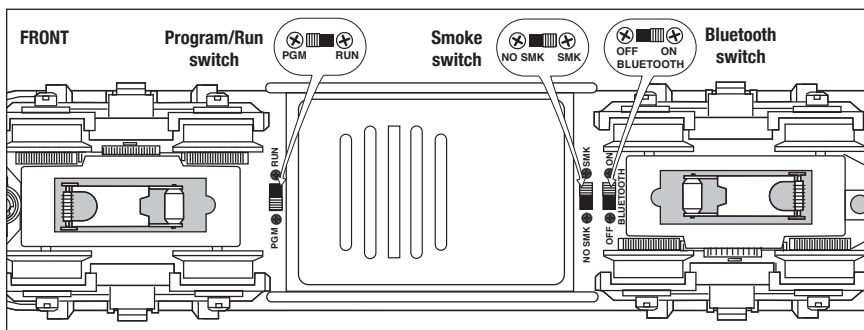

Figure 6. Switch locations
Note! If your locomotive set is running in Conventional mode, it can be interrupted by a Bluetooth Control device. If you do not wish for this to happen, locate the Bluetooth ON/OFF switch and move it to the OFF position. Refer to Figure 6 on page 8.
1. Slide the program/run switch on each locomotive to the PROG position. See Figure 6 on page 8.